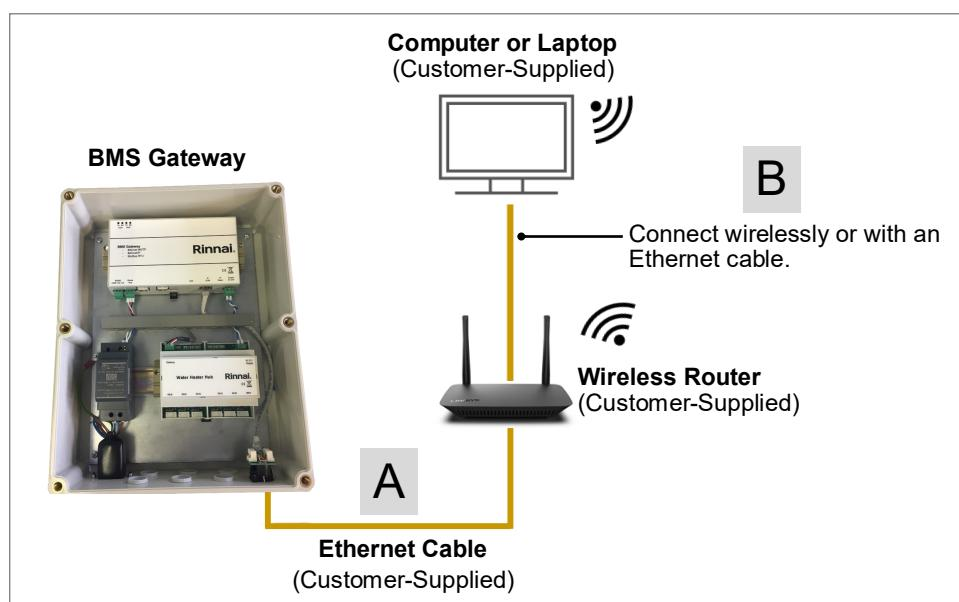

Fig 87. Connect to BMS Gateway Using a Network Router/Switch/Hub
- Connect the BMS Gateway to the router with an Ethernet cable (See “A” in Fig 87).
- Connect the computer or laptop to the router either wirelessly or with an Ethernet cable (See “B” in Fig 87).